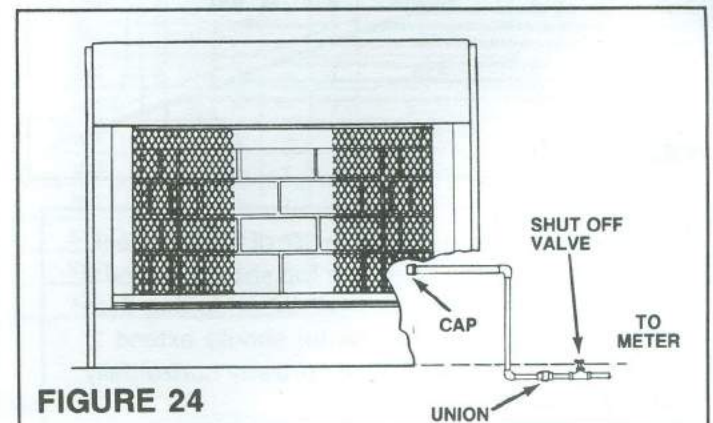

FIGURE 24
**IMPORTANT:** Install the gas line before finishing the fireplace. If desired, a decorative gas appliance may be installed. Use only iron pipe, ½" size, and appropriate fittings. When installing a gas line, a valve designed for installation outside the fireplace is required. (Figure 24).
**HEARTH EXTENSION:** If there is combustible floor construction in front of the fireplace, a hearth extension is required to protect it. The hearth extension, as shown in Figure 24, must be a minimum of 20" deep by 51" wide, and extend a minimum of 8" beyond each side of the fireplace opening.